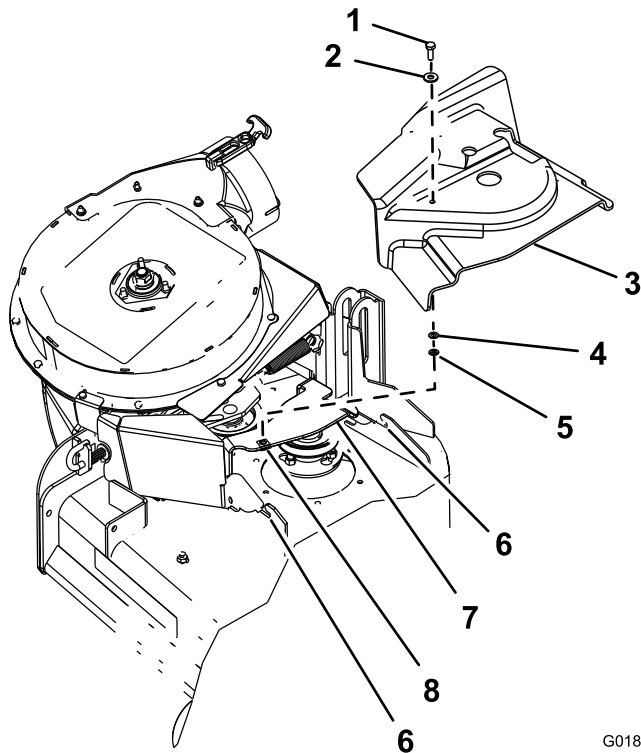

Figure 11
1. Assemble the washer (5/16 x 3/4 inch) to the hex-head bolt (1/4 x 3/4 inch) as shown in Figure 11.
2. Insert the bolt and washer through the hole in the top of the belt cover from the OEM blower and drive kit (Figure 11).
3. From the bottom of the belt cover, assemble the washer (1/4 x 1/2 inch) and retainer over the hex-head bolt threads (Figure 11).
2. Align the belt cover with notches in the deck flanges (Figure 11).
4. Secure the belt cover to the cover bracket with the hex-head bolt (Figure 11).